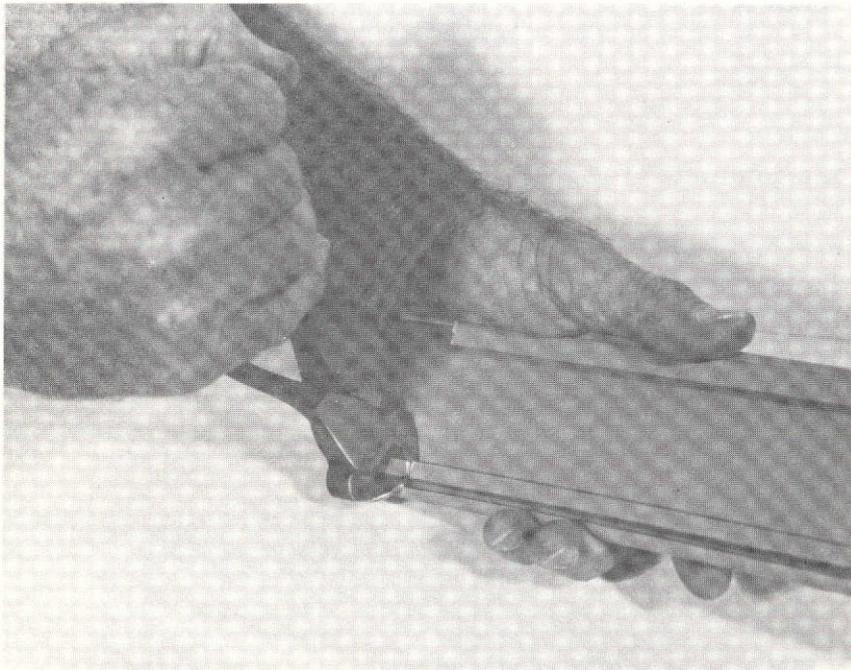

Figure 5. Removing Cable Retainer Lip
6. Starting from the corners  $3/4 - 1 1/4$  inches of the upper and lower cable retainer lip on the back channel is removed. This is accomplished with small end cutters as in Figure 5.